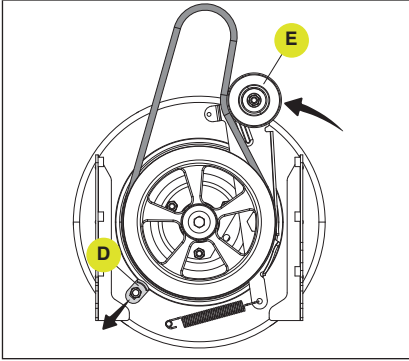

Figure 64
6. With the base and auger housing separated, use 13 mm wrench to loosen the M8 nut and slide lower belt guide (D) away from the auger pulley to give room to remove belt. Push the auger idler pulley (E) toward the large auger pulley to release the brake, and pull the belt off from the large pulley. (Fig. 64)